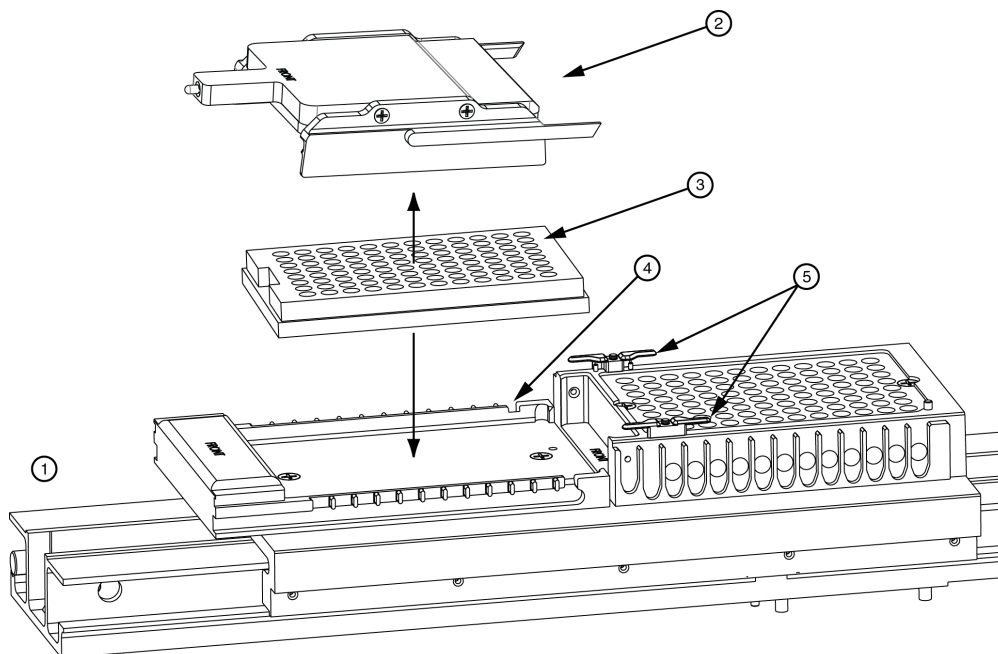

Figure 3.31 Loading the Buffer Plate and Buffer Evaporation Cover
1. Align the notched corner of the Buffer Plate with the alignment line on the Buffer Plate Holder (Figure 3.31).
- Align the notched corner of the Buffer Plate with the alignment line on the Buffer Plate Holder (Figure 3.31).